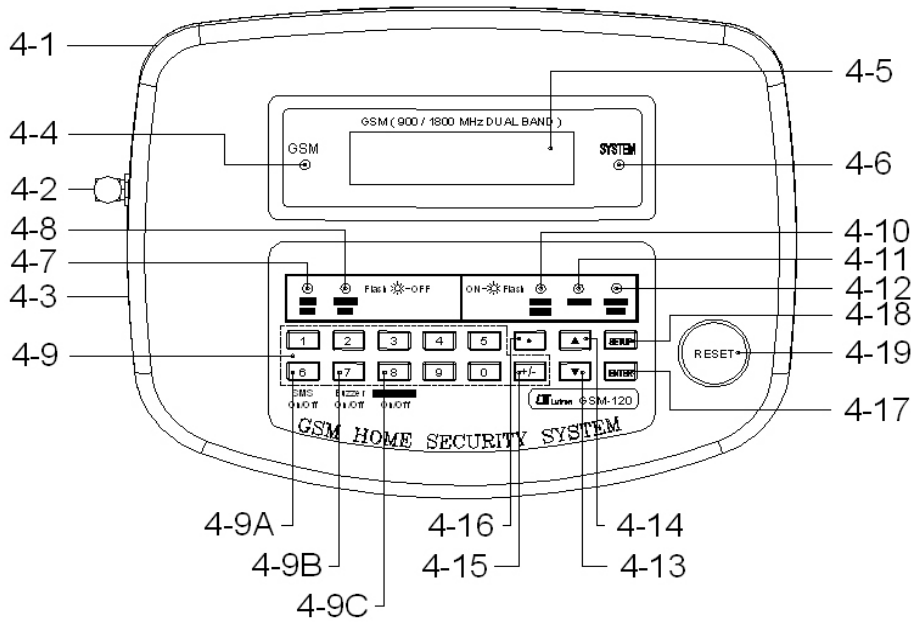

Fig. 1
- 3) Power ON ( 4-3, Fig. 1 ) the main unit.
Check if the " GSM indicator " ( 4-4, Fig. 1 ) is under normal condition, refer page 13, page 14.
- 9) Make sure the " SMS alarm " and the " Buzzer alarm " already set to ON function. ( 4-9A, 4-9B, 4-9C, Fig. 1 )
- 11) Rest the main unit by pushing the " RESET button " ( 4-19, Fig. 1 ), then leave the home.
- 12) When arrive home, just push the " ALARM button " ( 4-9C, Fig. 1 ) will OFF the alarm system.
- 2) Install the antenna to the Antenna socket " ( 4-2, Fig. 1 ) properly.